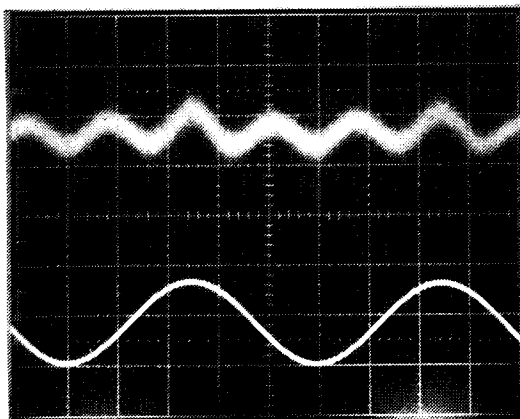

Fig. D-2: 100HZ DISTORTION RESIDUAL, EXP RELEASE
- c) Restore the oscillator output. Switch the RELEASE SHAPE switch to EXP, and verify that the distortion decreases, and that the distortion residual looks like Fig. D-2. Suppress the oscillator output, and verify that the time required for the G/R meter to move from 20dB to 10dB G/R is 2.0seconds, ± 0.5 seconds.